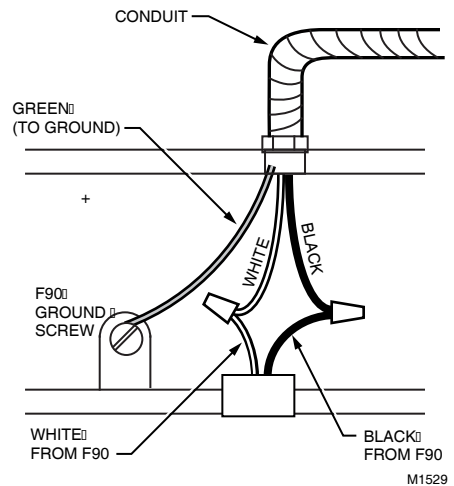

Fig. 12. Wiring F90.
- Mounted into a wall using the wall mounting hardware accessory. See Fig. 12.
5. Wire the F90 using the wiring diagram shown in Fig. 12. Assure the green wire is secured to the green grounding screw provided.